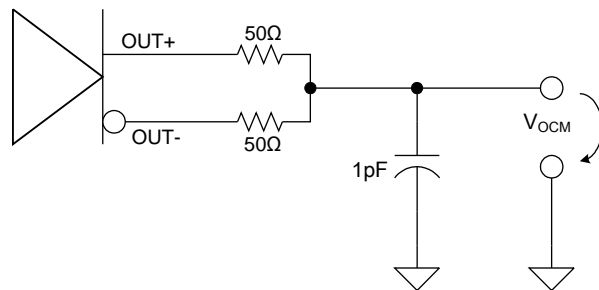
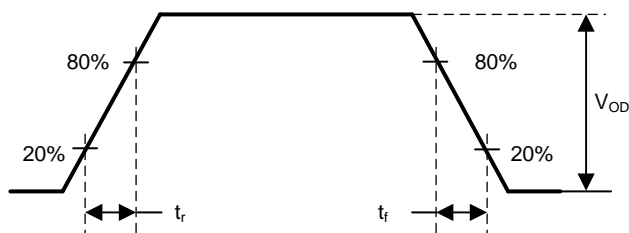

Figure 5. Common Mode Output Voltage Test Circuit
Figure 7. Output Rise and Fall Times
(1) Rise and Fall measurements include board and channel effects of the test environment, refer to Figure 5 and Figure 7.
(2) t_{SK(O)} is the magnitude of the time difference between the channels.
(3) t_{SK(PP)} is the magnitude of the difference in propagation delay times between any specified terminals of two devices when both devices operate with the same
(4) All noise sources added.